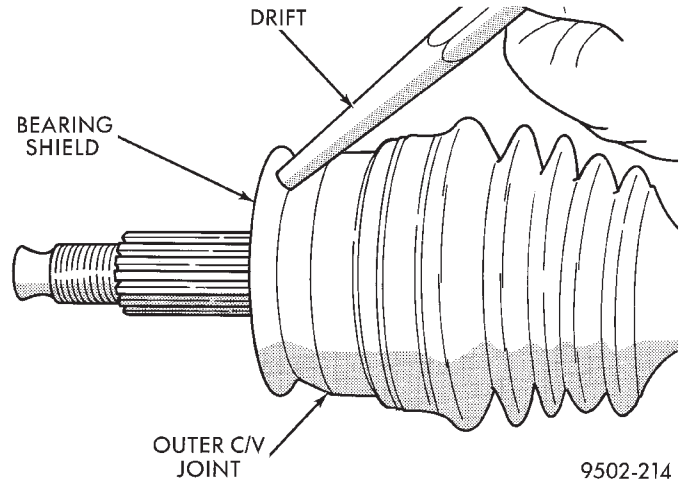

Fig. 42 Removing Bearing Shield from Outer C/V Joint
- (1) Clamp driveshaft in a vise by the interconnecting shaft.
- (2) Using a drift (Fig. 42) tap around the entire edge of the bearing shield until it is removed from the outer C/V Joint.